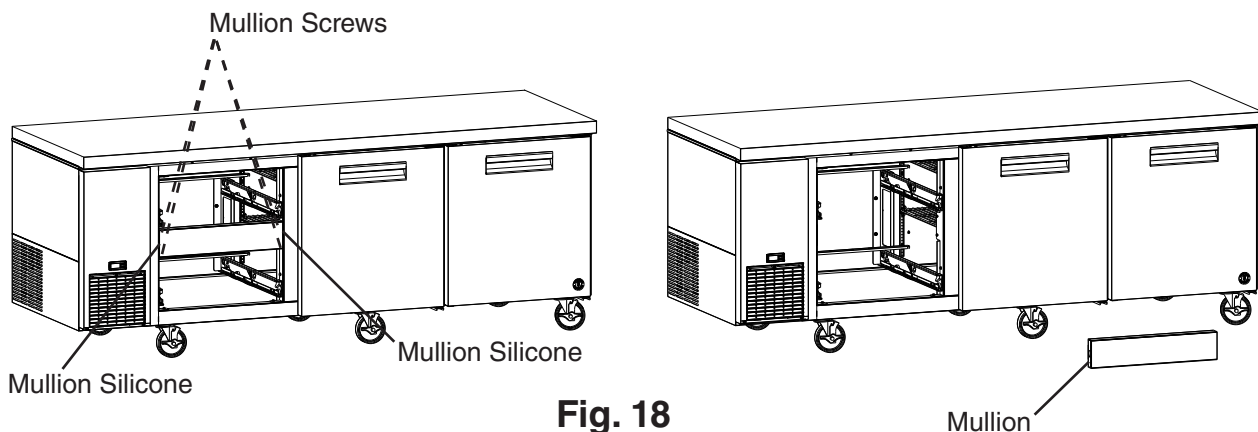

Fig. 18
- 3) Remove the 4 mullion screws, then cut the front mullion silicone loose and remove the mullion. See Fig. 18.